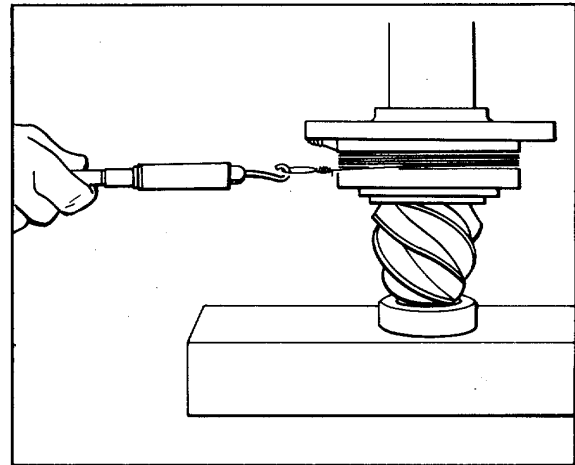

Figure 2.
8. While in press at 25,000 pounds pressure, check bearing preload torque. Wrap soft wire around cage and pull on horizontal line with pound scale. If a press is not available, the yoke may be installed and the pinion nut tightened to specified torque for checking (refer to Fig. 2).